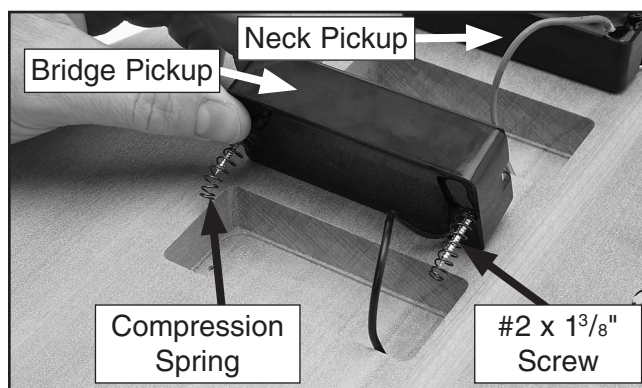

Figure 23. Installing pickups.
6. Remove tape from the pickups, and install each pickup into a cavity with the two #2 x 1³/₈" screws and compression springs, as shown in **Figure 23**. Install the bridge pickup, which has a silver and red wire into the bridge cavity; install the neck pickup, which has a white and silver wire in the cavity closest to the neck.